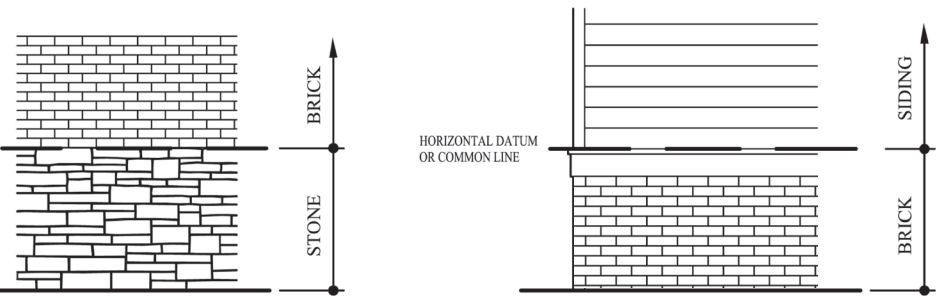

Figure 4
- » Building walls between the foundation and the eave shall be no more than two materials. Material changes shall occur along a horizontal datum or common line. Additionally, the lighter material shall be used above the heavier materials. See Figures 4 and 5.